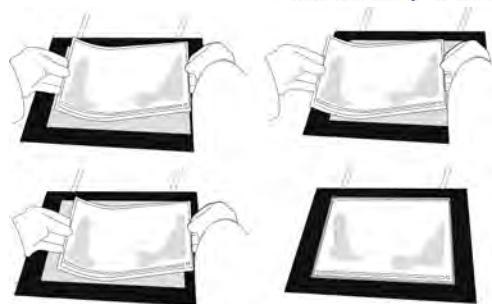

Fig. 4
6. Grip the gel (surface up) at the two lateral edges at the protruding film, bend it like an „U“ and slide the film-backing left and right on the cooling plate to distribute the cool contact fluid evenly (Fig. 4). Place the gel onto the cooling plate: the IPG strip-towards the cathode, the cathodal edge of the IPG strip-towards the matching line „18.5“ on the HPE Tower cooling plate, or 15 on the FlatTop Large.